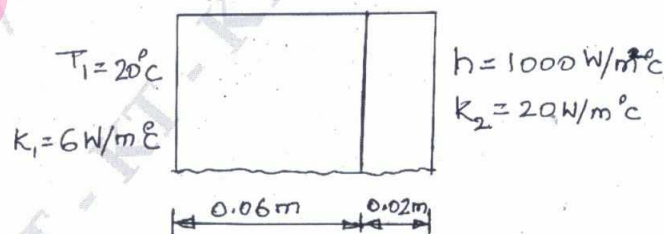

Fig. Q8 (b)
- b. Determine the temperature distribution through the composite wall subjected to convection heat loss on the right side surface with convective heat transfer coefficient as shown in Fig. Q8 (b). The ambient temperature is -5°C . Consider area (A) of the wall to be 1 m². (14 Marks)